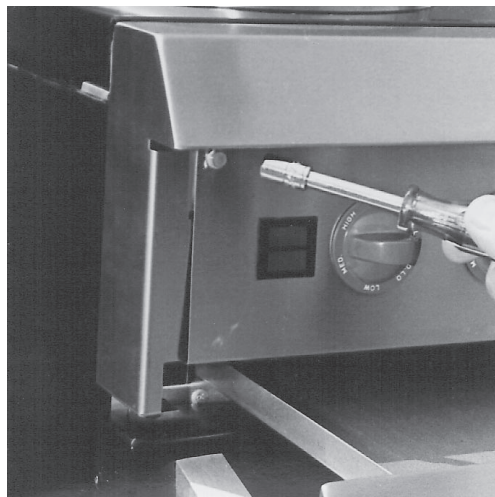

Fig. 5
2. Remove (2) 10-24 sheet metal screws (Fig. 5)